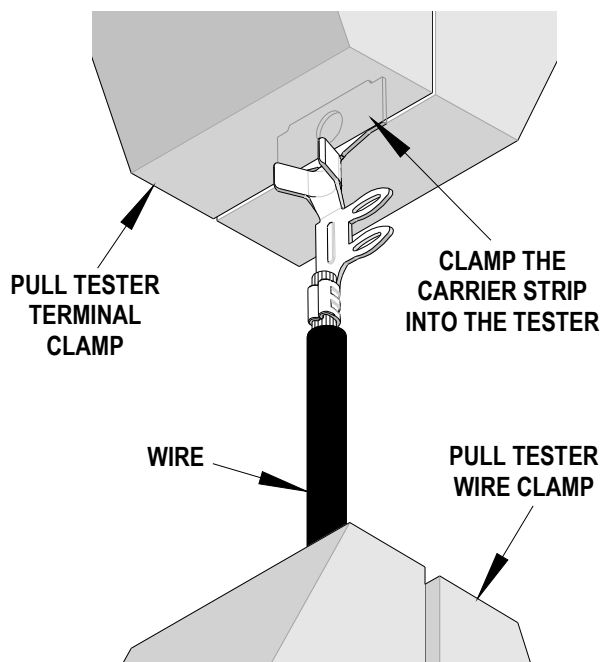

Figure 6
6. When pull testing, grip the carrier strip in one jaw and the wire insulation in the other jaw. See Figure 6.
Should this tool ever become stuck or jammed in a partially closed position, **Do Not force the handles open or closed**. The tool will open easily by lifting the ratchet release lever. See Figure 6.